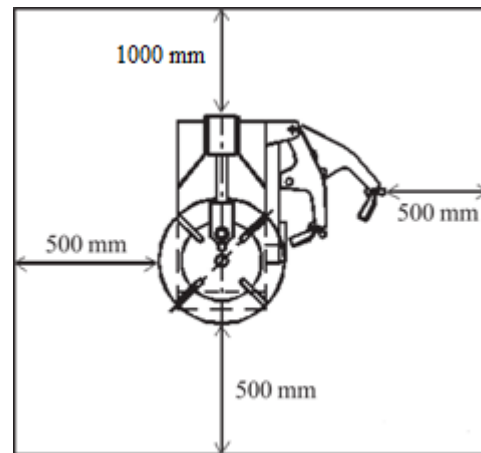
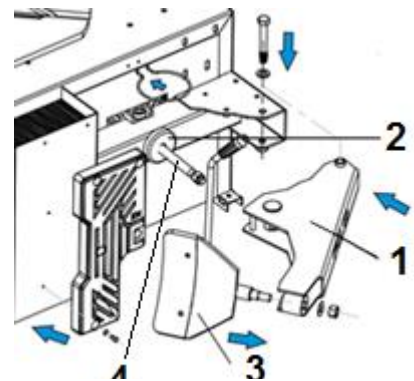

Fig. 3
Fig. 9
- The bead breaker arm (1, fig.9) is already mounted.
- Loosen the nut, which is placed on the piston rod (4, fig.9).
- Pull the bead breaker arm (1, fig.9) outwards all the way, till the piston rod (4, fig.9) comes out entirely.
- Place the rubber buffer (2, fig.3) over the piston rod to the side of the machine and place the piston rod back through the hole in the bead breaker arm (1, fig.9). Now tighten the nut using an air drill.
- Now place the bead breaker shovel (3, fig.9) and connect it firmly using the washer and nut.